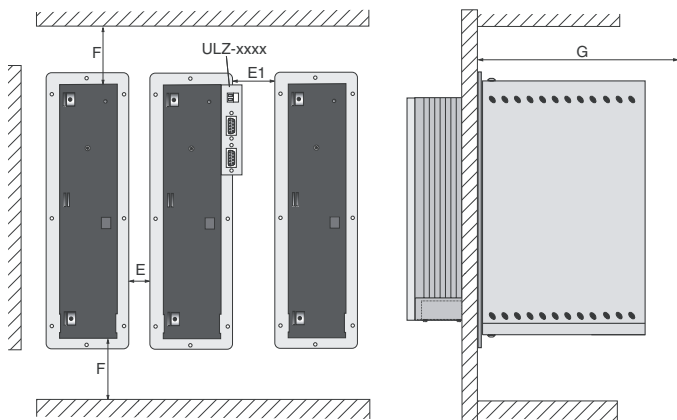

Fig. 2.2 Mounting clearances (see Table 2.4)
2) Dimensions E to G see Fig. 2.2